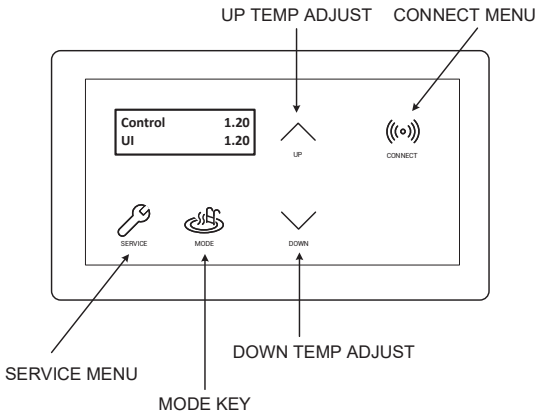

Figure 10. Heater Control Display
The heater display is located in the front panel of the heat pump, covered with a door. All operation and settings of the heater control are accomplished through the use of the five (5) touch keys of the user interface. These keys are displayed in **Figure 10**.